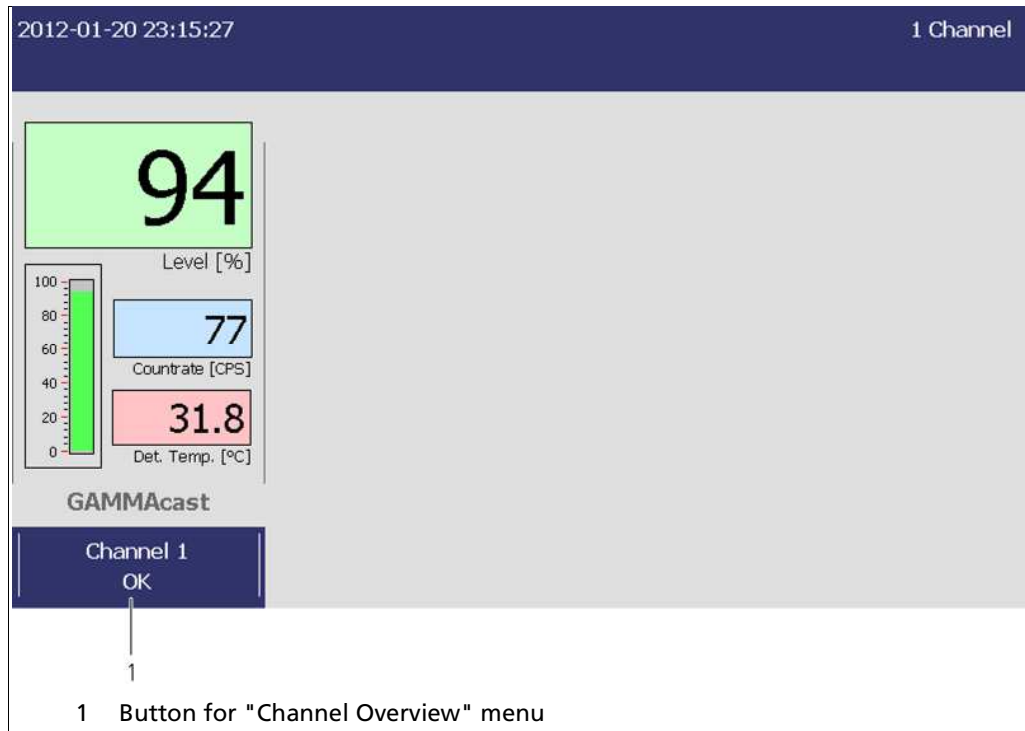

Fig. 51 Start page with a channel
1. Click on the button **<Channel XY>** in the standard display (Fig. 51, Pos. 1) to reach the "Channel Overview" menu.